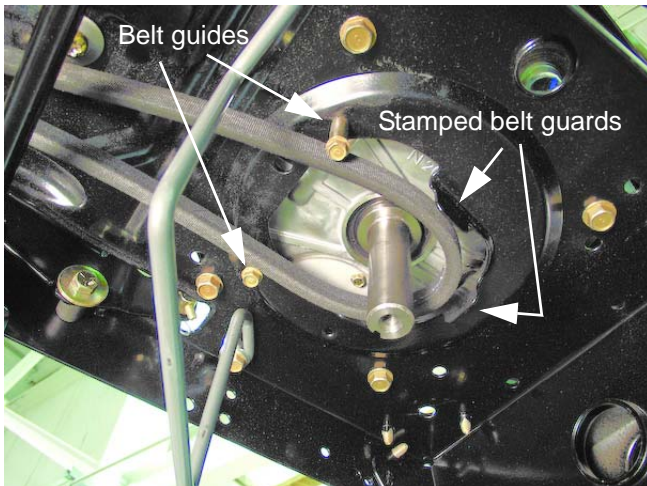

Figure 5.52
- 5d. Lower the pulley and drive belt enough to clear the belt guards stamped into the frame. See Figure 5.52.